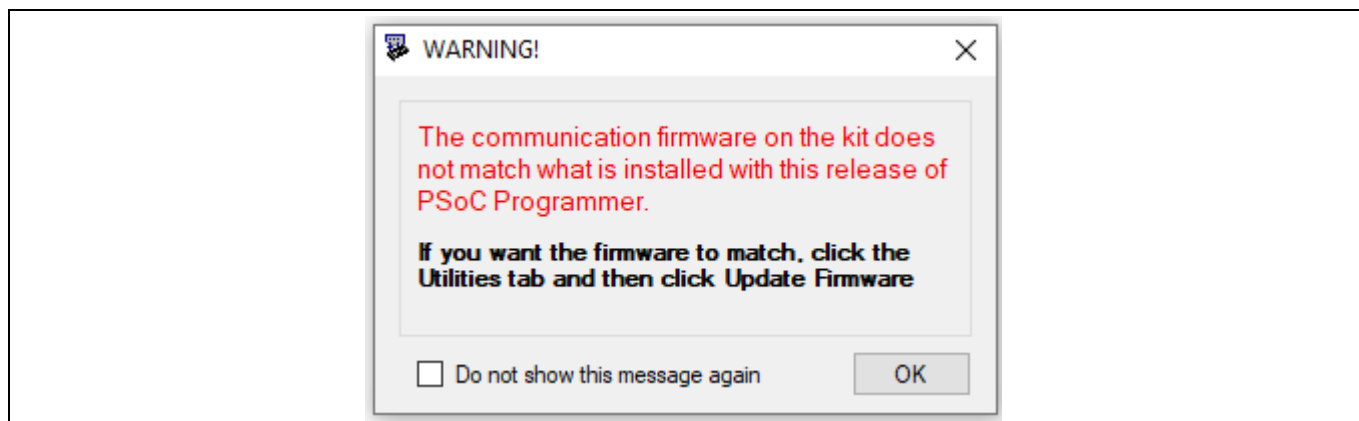

Figure 18 Programmer fails to communicate warning message
- If the PSOC™ Programmer fails to communicate, a pop-up window will show the message shown in Figure 18.